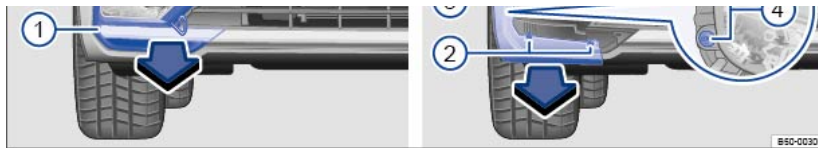

Fig. 206 In the front R-Line bumper, right-hand side: remove the fog light.
3. Hook the wire hook into the opening on the cover under the fog light \Rightarrow Fig. 206 . Pull the cover forwards in the direction of the arrow \Rightarrow Fig. 206 .